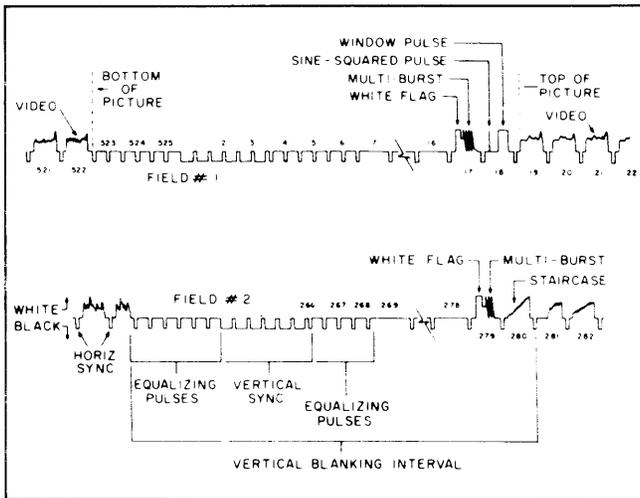

Fig. 26. Vertical blanking interval, showing VITS information.
9. Set the SWEEP TIME/CM control to the .1mS/CM position. This expands the display by increasing the sweep speed. The VITS information will appear toward the right hand portion of the expanded waveform displays. The waveform information on each trace may appear as shown in the drawing of Fig. 26. Because there is no provision for synchronizing the oscilloscope